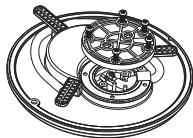

Figure 2
- 2) Position the silicone gel ring on the light and place bottom cover and tighten 5 screws. (Figure 2)